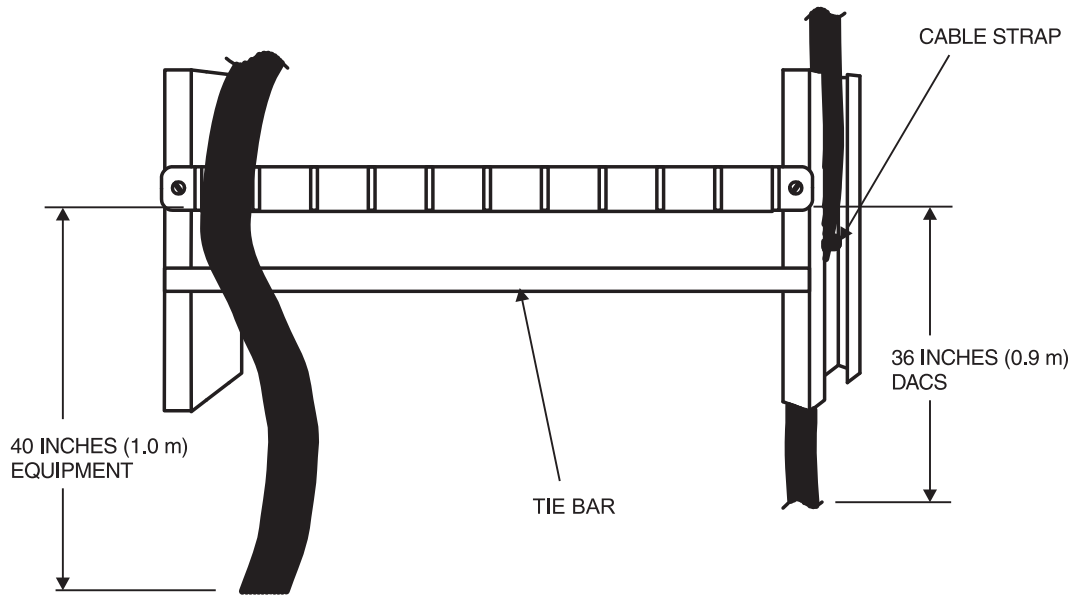

Figure 6. DSAB3/1 and DSAB3/3 Cable Cut-off Length
1. Mount a cable strap between adjacent bays two holes below the bottom of each cable retaining bracket. See Figure 6 on page 11.
2. Route the DACS cables down between the bays allowing for approximately 36 inches (0.9 m) of length beyond the uppermost hole of the associated access panel. The cable coming from the DACS (OUT) should be routed on the left side of the bay as viewed from the rear. The cable going to the DACS (IN) should be routed on the right side of the bay as viewed from the rear.